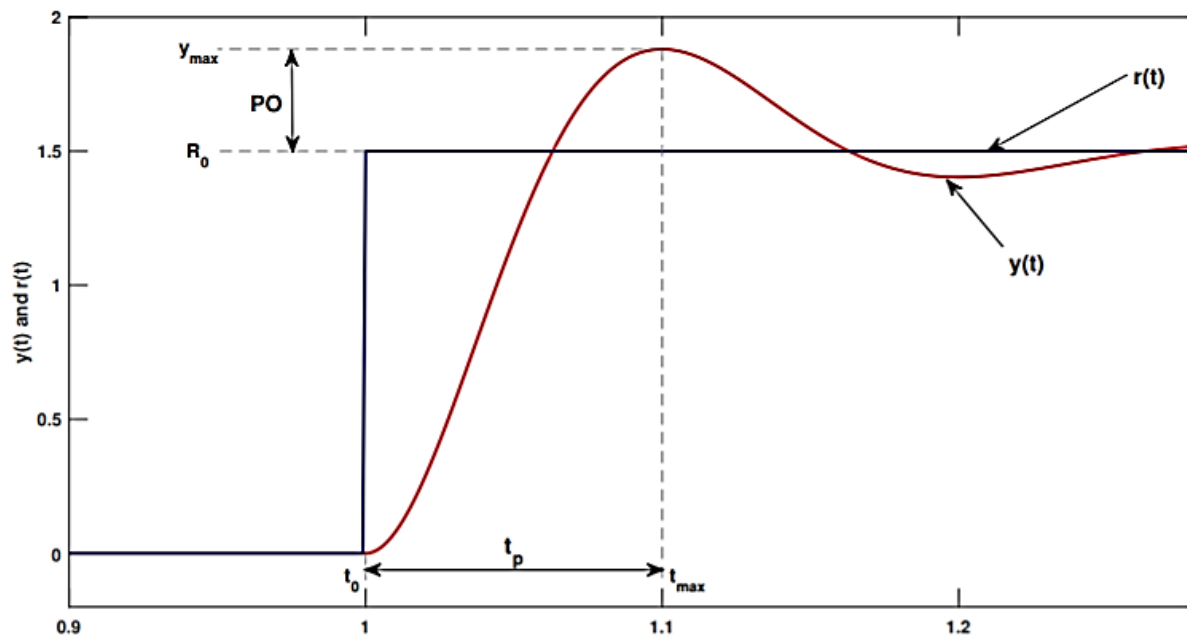

Figure 1: Response of 2nd order system to step input
If a second-order system is underdamped, then the system response obtained is similar to the one illustrated in Figure 1 when a step input,  $R(s) = \frac{R_0}{s}$  is provided.
- **Peak Time ( $t_p$ )** is the time required to reach the first, or maximum peak. In Figure 1, the peak time is
- **Percent Overshoot (PO)** is the amount that the response overshoots the steady state or final value at the peak time. This is expressed as a percentage of the steady-state value. In Figure 1, the response achieves maximum value,  $y_{max}$  at  $t_{max}$ , and the percent overshoot is